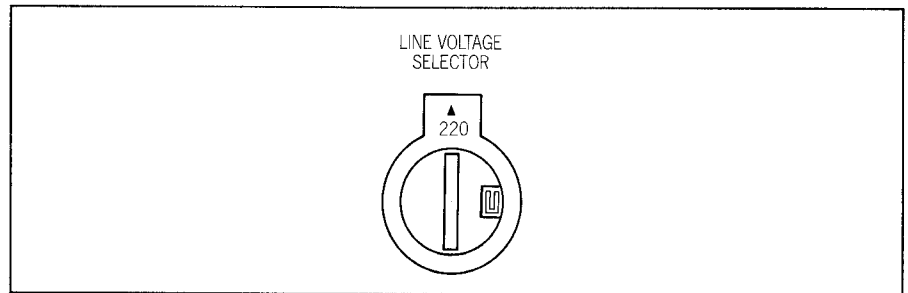

Fig. 2.3.3
**Important:** Before you connect the recorder to the AC power source for the first time, check that the setting of the line voltage selector (Fig. 2.3.3) agrees with your local line voltage.